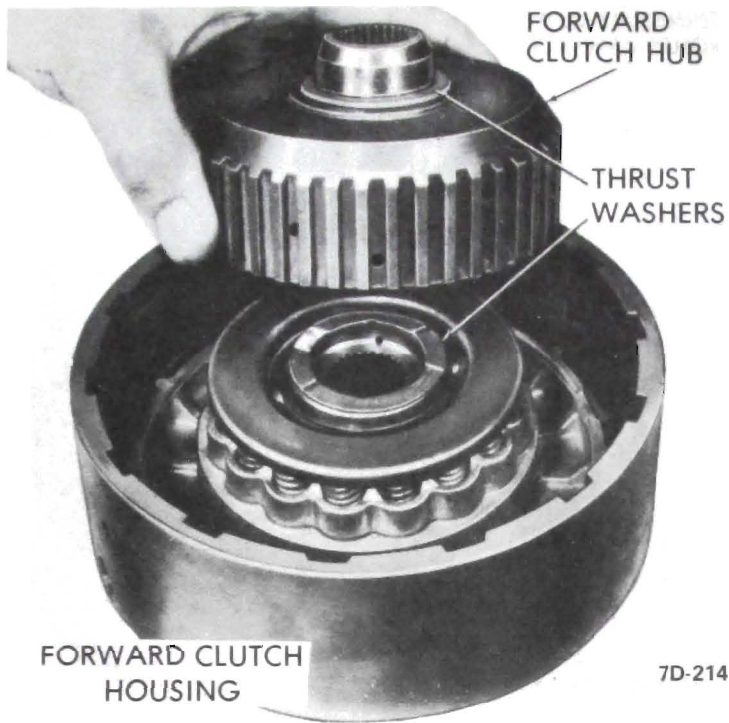

Figure 7D-214
9. Place forward clutch hub into forward clutch housing. See Figure 7D-214.